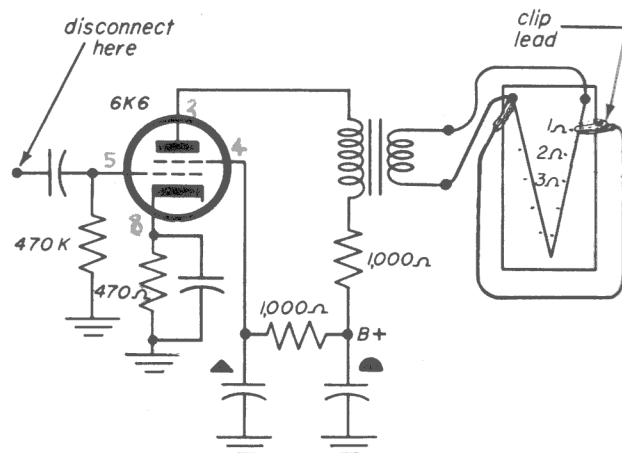

Fig. 26-9
the other end of each lead to the end terminals of the slide-wire potentiometer as in Fig. 26-9.
Step 7. Connect one end of your alligator-clip lead to the high-resistance terminal of the slide-wire potentiometer, and the other end of this clip lead to the nichrome wire at the 1-ohm point on the wire as shown in the figure. Compare your wiring with the schematic of Fig. 26-9 before you proceed.
Step 1. Check to see that the slide-wire potentiometer is connected across the secondary leads, as in Fig. 26-9.